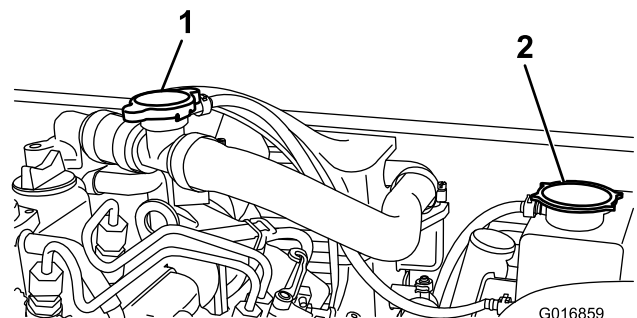

Figure 37
2. Remove the fill cap (Figure 37) and fill with coolant.
3. Replace the fill cap and remove the radiator overflow tank cap (Figure 37).
2. Remove the radiator overflow tank cap (Figure 37).